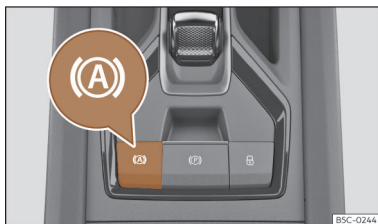

Fig. 157 In the lower part of the centre console: Auto Hold function button.
(A) The control lamp of the **(A)** button >>> **Fig. 157** remains on when the Auto Hold function is connected.